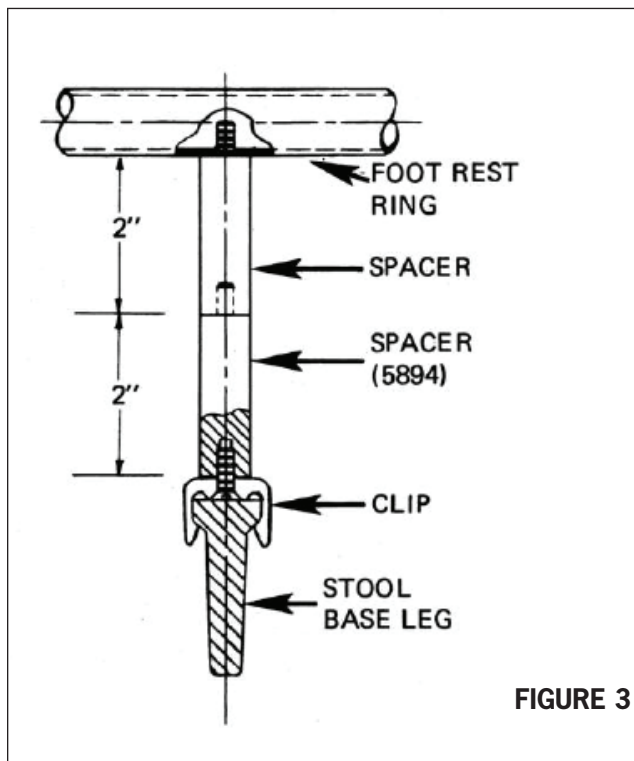

FIGURE 3
3.5.2. One spacer for each clip is recommended for 'M' models, and two spacers per clip are recommended for 'H' models. (Refer to Figure 3.)